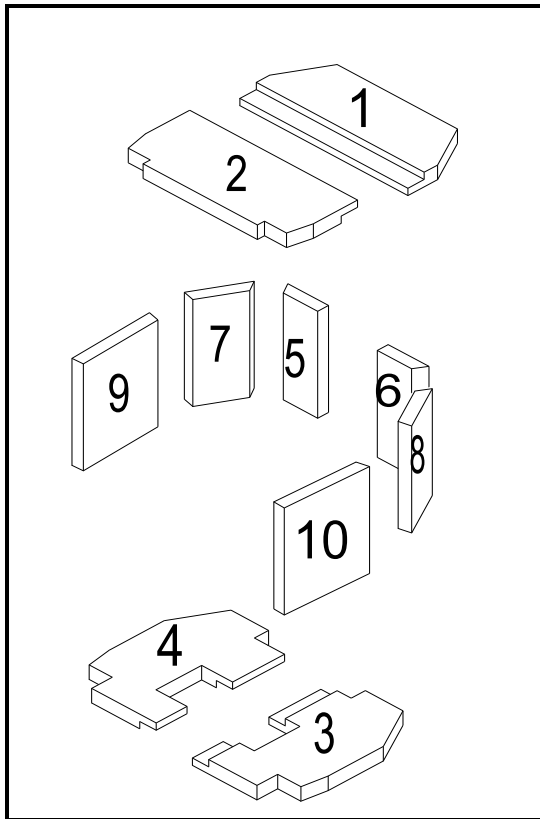

FIGURE 22. PLACEMENT OF VERMICULITE INSULATION
The floor, sides, and top baffle of the T-4000 are constructed of high-temperature vermiculite insulation. Both top and bottom are constructed of two pieces of vermiculite that overlap, forming a sealed, insulated surface that is designed to hold heat in the firebox until secondary combustion can take place. The side pieces sit on top of the floor piece and are vertically installed. It is very important that the integrity of these vermiculite pieces is not compromised. **Do not burn the stove without the vermiculite installed!** If degradation or broken pieces of vermiculite is noticed, replace them immediately. See FIGURE 22 for installation of replacement pieces. Follow these steps for removal and installation of new pieces:
4. Install new pieces as suggested in FIGURE 22.